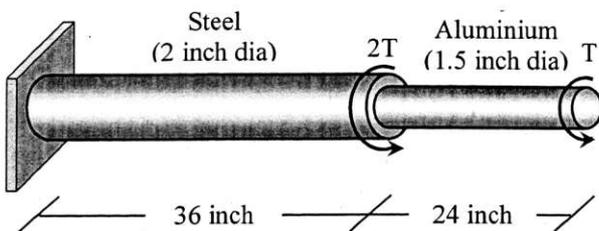

Figure 3
3. A compound shaft consisting of a steel segment and an aluminium segment is acted upon by two torques as shown in **Figure 3**. Determine the maximum permissible value of T subject to the following conditions: $\tau_{steel} \leq 12 \text{ ksi}$, $\tau_{aluminium} \leq 8 \text{ ksi}$, and the angle of rotation of the free end is limited to 6° . For steel, $G = 12,000 \text{ ksi}$ and for aluminium, $G = 4,000 \text{ ksi}$.